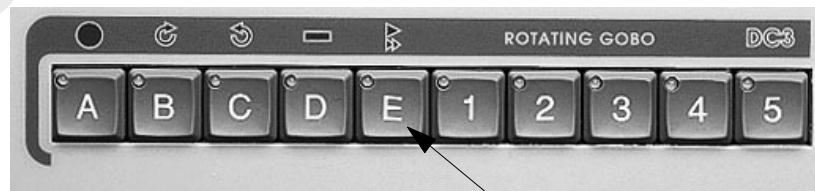

Figure C.9. ROTATING GOBO Group
- **Open rotating gobo**- use the <E> key in the ROTATING GOBO group. Figure C.9.
- **Open position on rotating gobo wheel 1**- press the <E> key in the ROTATING GOBO group. Refer to Figure C.9.